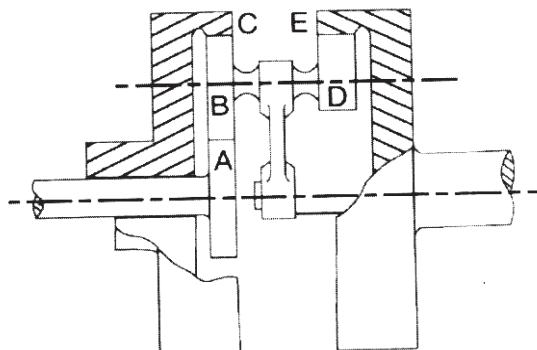

Fig.2
- Q4)** In epicyclic gear train as shown in fig.2 the driving gear A rotating in clockwise direction has 14teeth & fixed annular gear C has 100 teeth. The ratio of gear in gears E & D is 98:41. If 1.85kW is supplied to the gear A rotating at 1200 rpm. Find: [10]